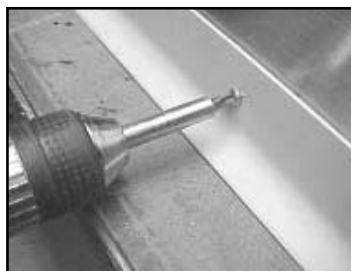

Figure 4
4. Install #10 Stainless Steel Self-Tapping Screws into Cove Molding, Interior Wall Base Angles and Exterior Wall Bottoms. Space Screws approximately 1"(inch) up from bottom of Cove Molding, and 8" to 12" (inches) apart while avoiding Wall Seams. See **Figure 4**.